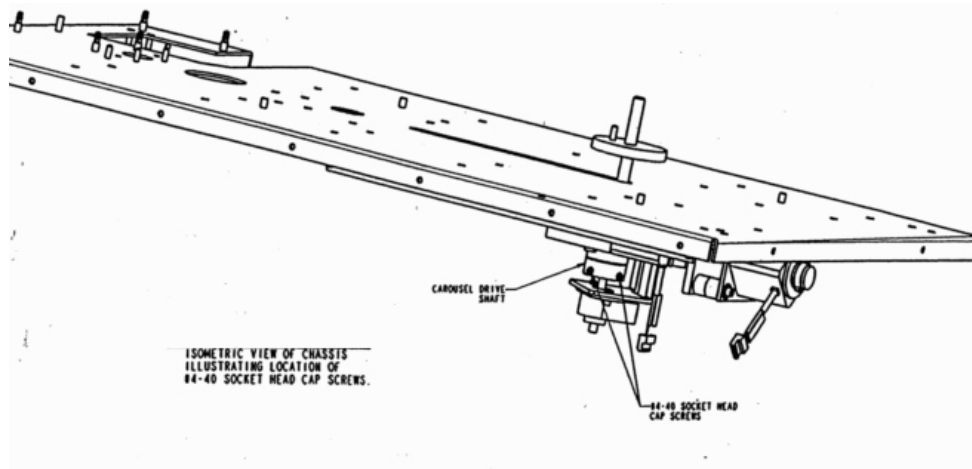

Figure 6-20: Securing the Encoder Shaft
6. Loosen the 4-40 socket head cap screws that secure the encoder shaft to the carousel drive shaft. See Figure 6-20.